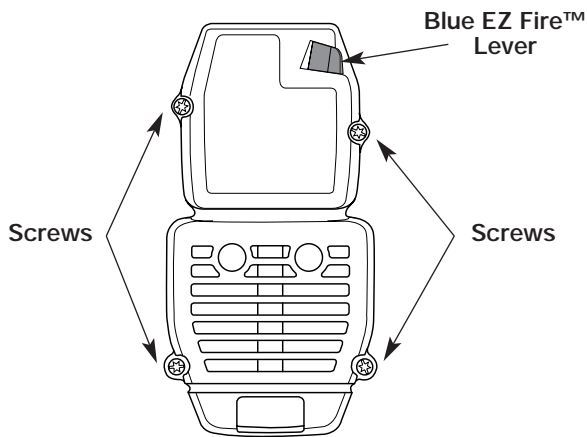

Fig. 13
1. Remove the four (4) screws securing the air filter/muffler cover (Fig. 13). Use a # T20 Torx bit screwdriver.
2. Insert the four (4) screws into the holes in the air filter/muffler cover (Fig. 13) and tighten. Use a # T20 Torx bit screwdriver. Do not over tighten. Do not force.